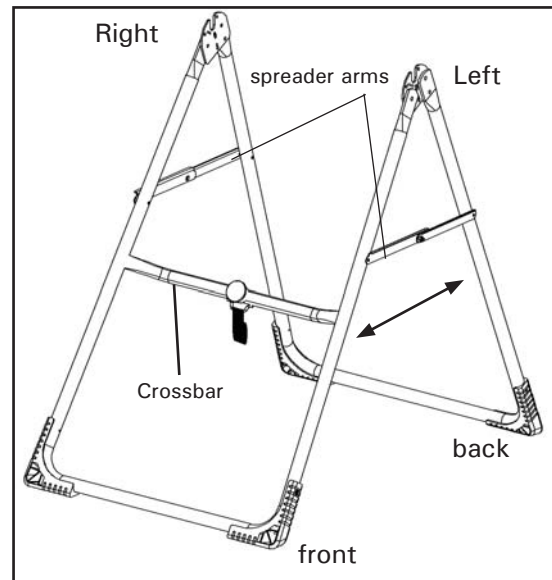

Figure 1
- Open the A-frame and make sure the spreader arms are locked. Rest the A-frame on the floor (Figure 1). The Crossbar is at the front.